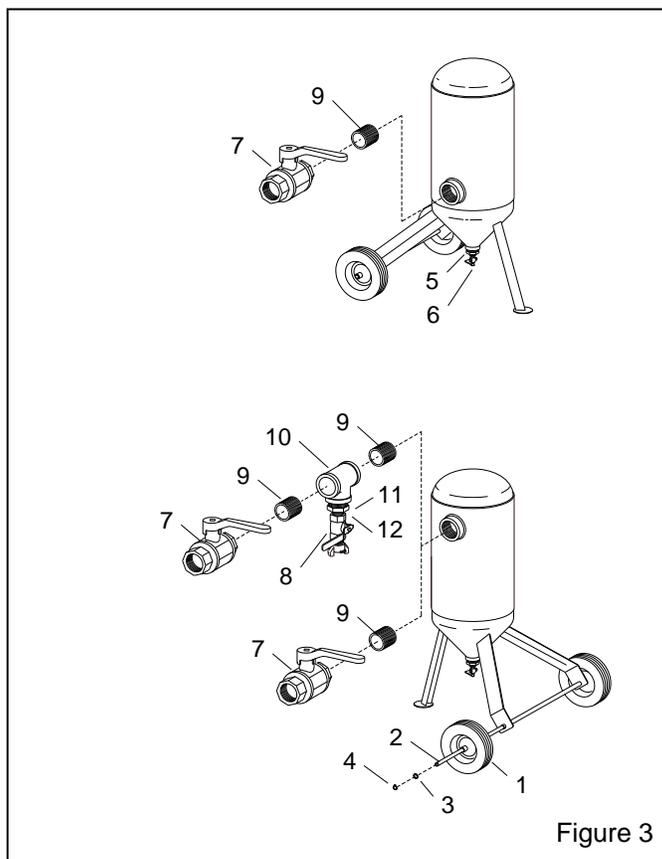

Figure 3
**5.1 Coalescent Filter Assembly, Figure 3**
**5.1 Typical Optional Accessories, Figure 3 \***